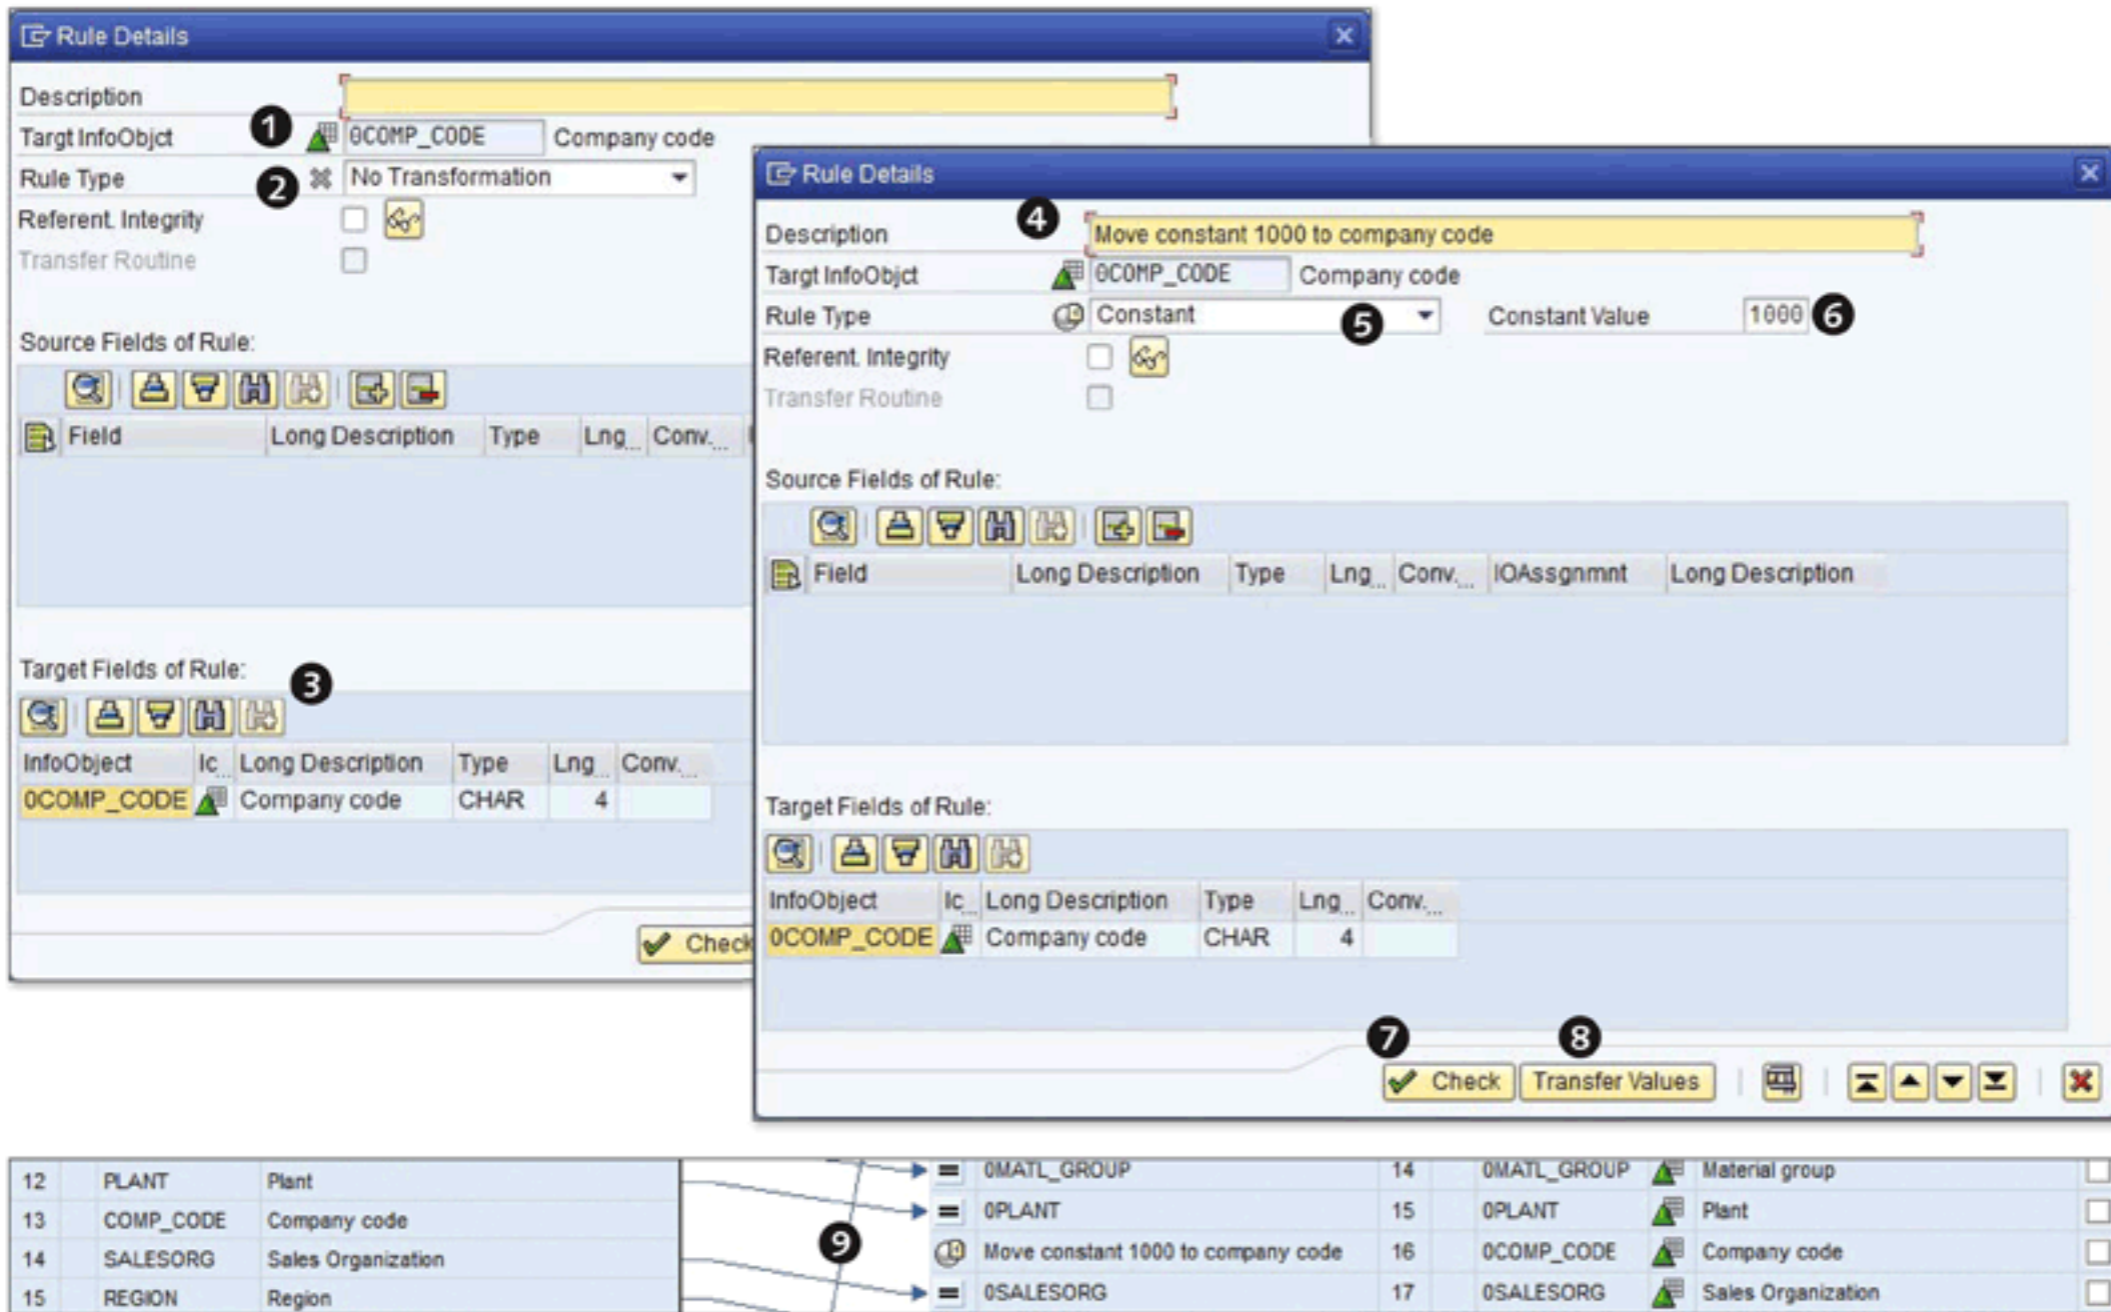

Figure 7.57 Creating a Constant Transformation
This action results in the RULE DETAILS screen shown in Figure 7.57. As you can see, the target InfoObject is shown as 0COMP_CODE. Because we've deleted the transformation rule in the previous step, the RULE TYPE field lists NO TRANSFORMATION (2).
Normally, transformations have only one target field (as shown in 3 of Figure 7.57). There may, however, be a situation where you can have more than one, such as when doing unit or currency translations for key figures.
Give a proper description for the transformation type, as shown in 4 of Figure 7.57. Use the dropdown list available for the rule type, and select CONSTANT (5). You can now enter the value for the company code (6).
Check your transformation by clicking on the CHECK icon (7), and then click on TRANSFER VALUES (8) to transfer the rule change to your transformation. As shown in 9 of Figure 7.57, a new rule is now available (9).